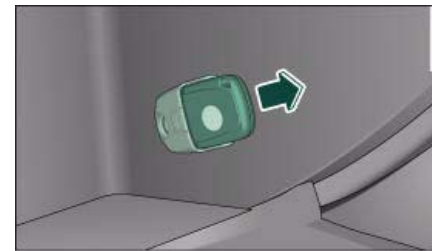

Fig. 33 Glove box: Adapter for spare key
- Open the glove box and take out the adapter for the spare key ⇒ fig. 33 -arrow-.